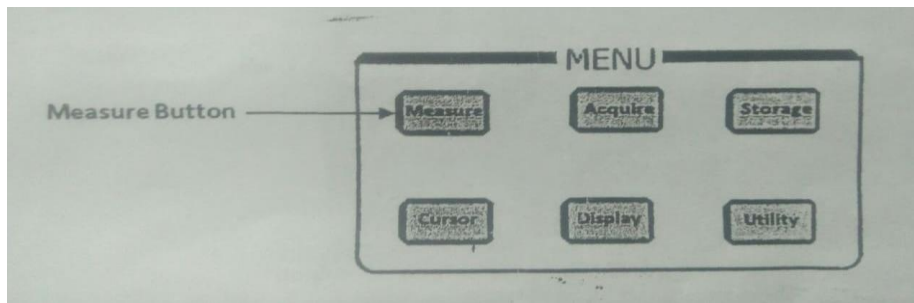

Fig. 2.9 Measurement Setting
13. Adjust the sphere gap to the desired distance using the controller switches indicated by the red ring, Fig 2.9 below.
15. Sound the horn to warn others that loud noises may occur. (Blue ring, Fig 2.9)